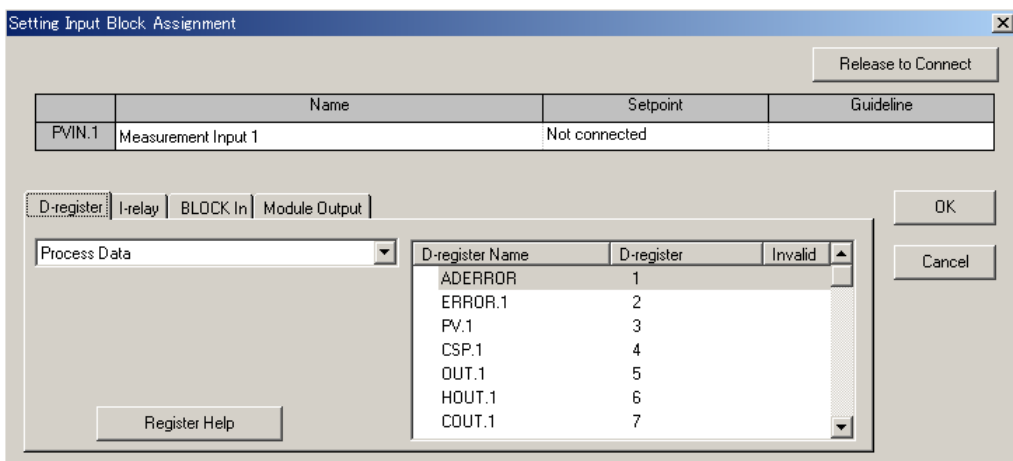

Figure 12.1.12 [Setting Input Block Assignment] Dialog Box
- (2) From the tool menus, click <Edit [E]>, then <Connection>. The [Setting Input Block Assignment] dialog box (Figure 12.1.12) appears.